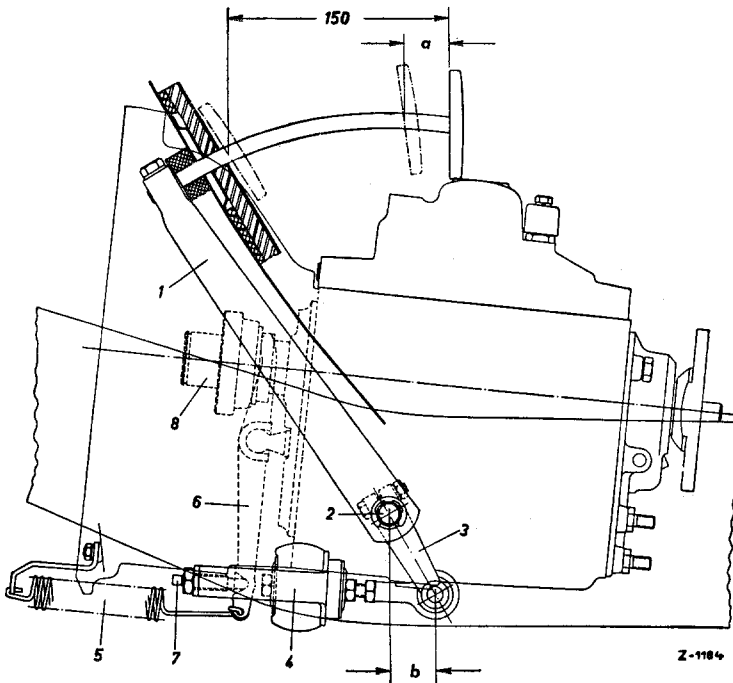

Fig. 29-1/1
The clutch is actuated by the clutch pedal (1) via the clutch pedal shaft (2). The clutch linkage (4) is attached to the clutch pedal shaft which is not supported on the transmission (Fig. 29-1/1). The clutch pedal is mounted on a tube on the chassis base panel. Axial support of the engine is provided by the stay rod (5) which is attached to the clutch housing and to a tube on the chassis base panel (Fig. 29-1/2).